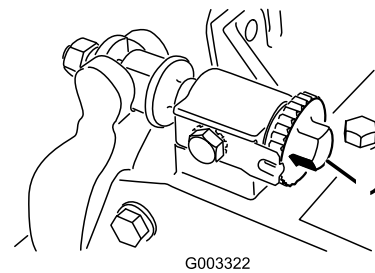

Figure 29
1. Loosen reel to bedknife contact by turning the bedknife adjusting knobs (Figure 29) counterclockwise until no contact exists.